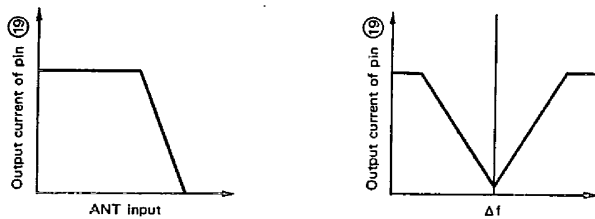

Fig. 2 Characteristics of Output Current of Pin 19
(3) SD Output Characteristics
SD output circuit is the circuit for supply the signal to stop the auto-scan of the digital tuner system (D.T.S.), and is used on external two resistors and a transistor. In SD output circuit, OR output of Δf detecting circuit and level detection circuit is delivered to pin (19). Thus, Fig. 2 shows in the cahacteristics of the output current of pin (19) for the input signal or the frequency slip.
By above mentioned characteristics, SD sensitivity is possible to simultaneously change by means of the load resistor R_3 for muting sensitivity setting. Also, SD band width can be set freely by changing the value of resistor R_9 between pin 19-GND, because the output current of pin 19 changes like V characteristic curve shown in Fig. 2 against the frequency slip. In the same time, SD sensitivity is possible to change in some degree.